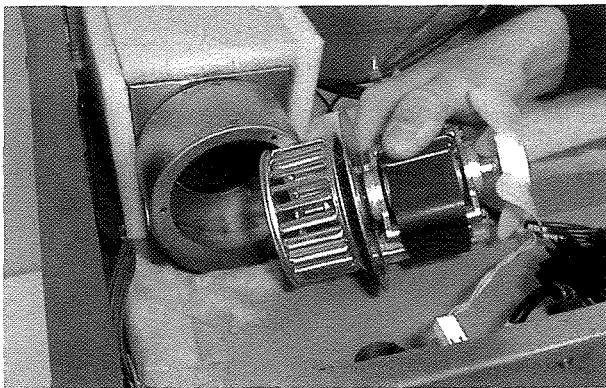

Figure 2
5. Remove the blower from the blower box. (See Figure 2)